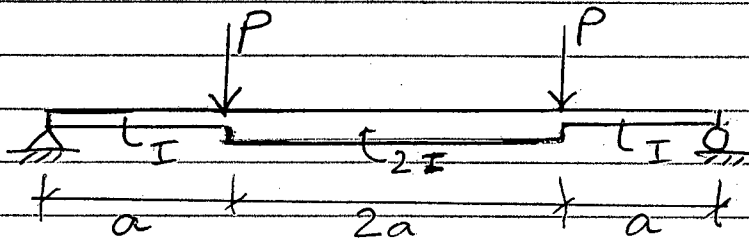

FIG. 4
4. For the beam shown in Fig. 4, determine the maximum deflection and rotation at the support using moment-area method. (26 ¼)